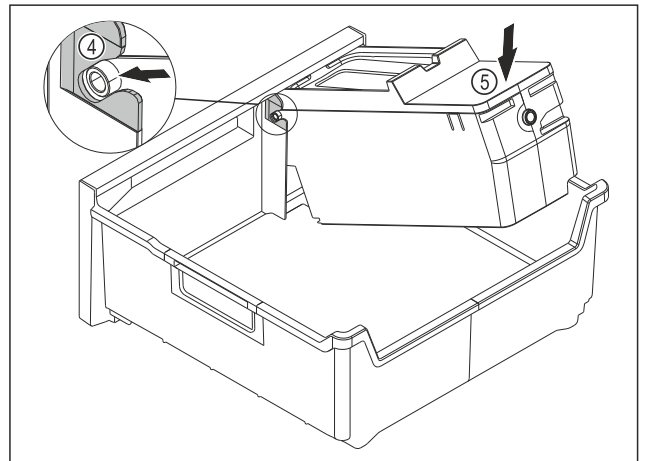

Fig. 110
- ▶ Installing the EasyTwist-Ice body: Push the axes for the EasyTwist-Ice body into the guides Fig. 110 (4).
- ▶ Press the EasyTwist-Ice body Fig. 110 (5) down at the back.